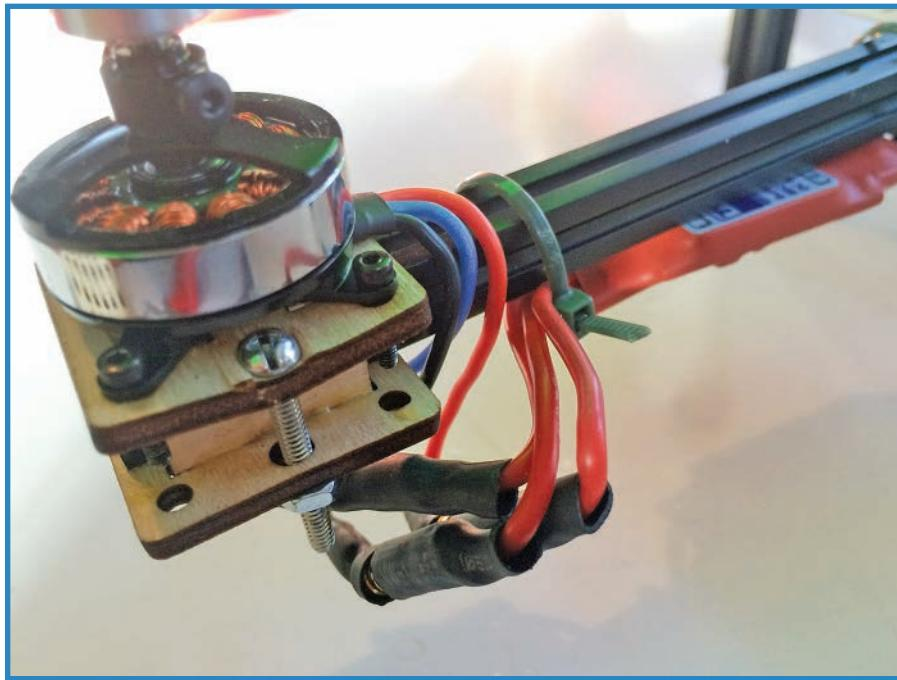

FIGURE 10.11 Connect the ESCs to the motors.
7. **Connect!** Finish by snapping the motor's male plugs into the as ESCs' female plugs, as shown in Figure 10.11. You'll be connecting the actual battery in the next section. While you're at it, you'll want to cinch the zip ties tight to keep the ESCs in place.